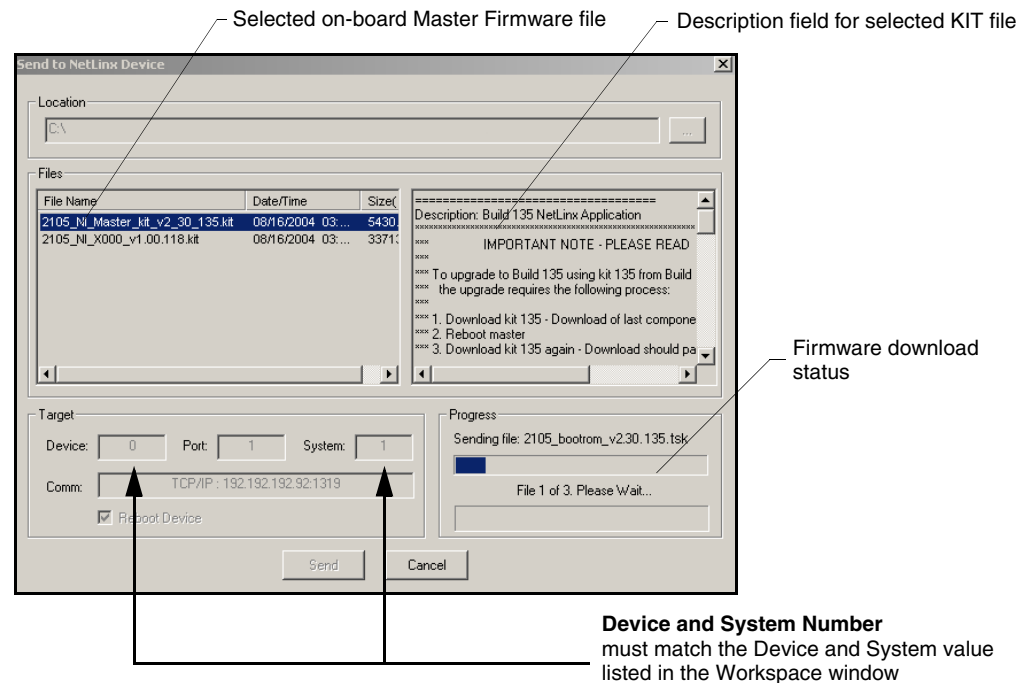

FIG. 30 Send to NetLinx Device dialog (showing on-board NI_Master firmware update via IP)
5. Select **Tools** > **Firmware Transfers** > **Send to NetLinx Device** from the Main menu to open the Send to NetLinx Device dialog (FIG. 30). Verify the target's System number matches the value listed within the active System folder in the **OnLine Tree** tab of the Workspace.
6. Select the NI Master's KIT file from the **Files** section (FIG. 30).
9. Click **Send** to begin the transfer. The file transfer progress is indicated on the bottom-right of the dialog (FIG. 30).